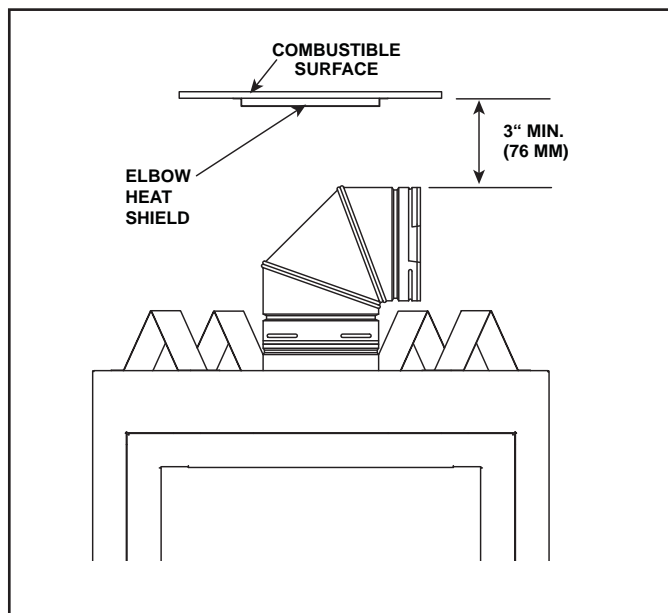

Figure 10.16
1. Determine if the heat shield is required. Measure the vertical distance between the top horizontal surface of the vent elbow and the nearest combustible surface above the vent elbow. If the distance is more than 4 inches, the heat shield is **NOT** required. If it is 3-4 inches, the heat shield **IS REQUIRED**. Install per the following steps. See Figure 10.16.